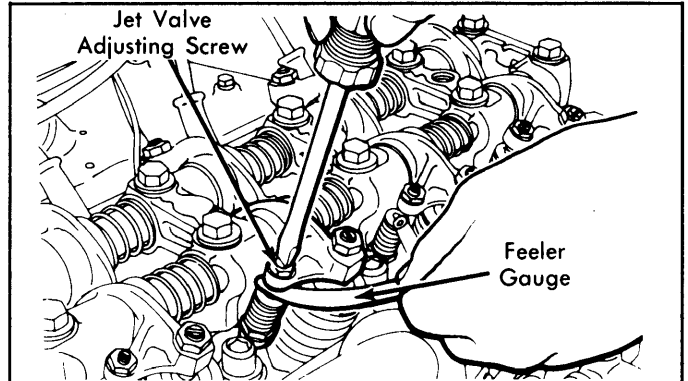

Fig. 2: Adjusting Jet Valve Clearance
3) Back off jet valve adjusting screw (counterclockwise) and place .006" (0.15 mm) feeler gauge between top end of jet valve stem and bottom end of adjusting screw. See Fig. 2.